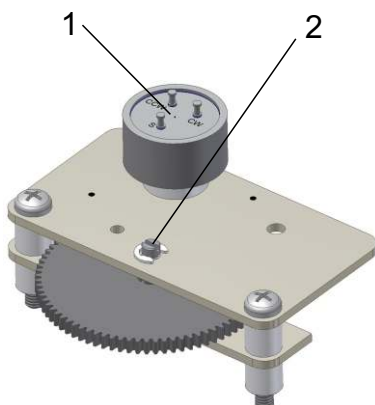
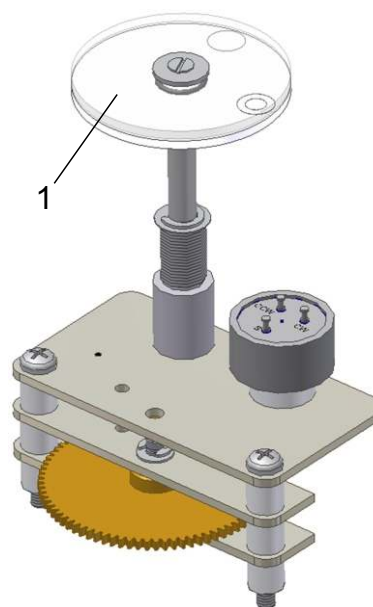
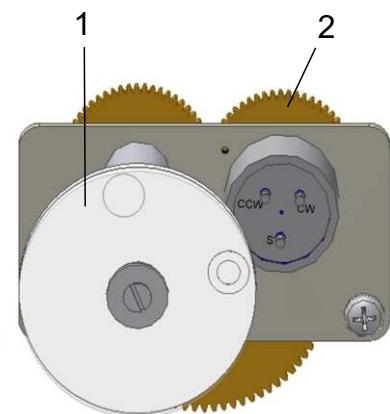
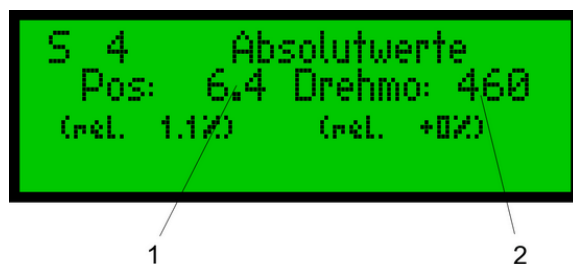

Figure 17: 1... potentiometer for position sensing, 2... slotted shaft for turning the potometer
Figure 18: 1... mechanical position indicator
Figure 19: 1... mechanical position indicator, 2... wheel turning the potentiometer
Figure 20: 1... absolute value of the position unit, 2... value for the torque unit (is factory adjusted)
- For units without mechanical position indicator turn the slotted shaft (see Figure 17) with a screwdriver carefully until the below value is reached (see Figure 20)
- For units with mechanical position indicator turn the wheel (see Figure 18 and Figure 19) until the below value is reached (see Figure 20)